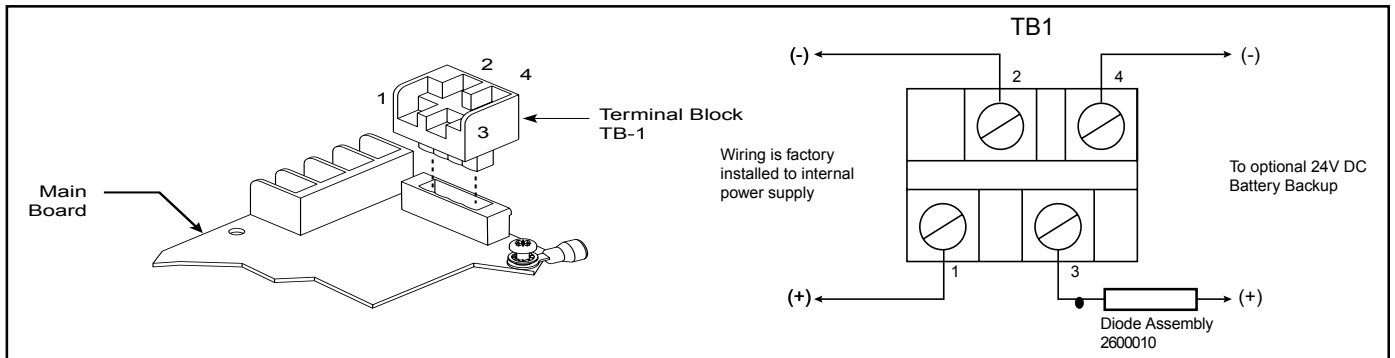

Figure 5. Wiring to Tone Generator Terminal Blocks
- d. Optional. Connect external 24V DC battery (not supplied) in series with separate diode assembly part 2600010 (supplied) to TB1 terminals 3 and 4 on the main board as shown in Figure 5 and marked on the diode assembly.
NOTE: Terminal Block TB1 can be unplugged from the main board to complete wiring as shown in Figure 5.